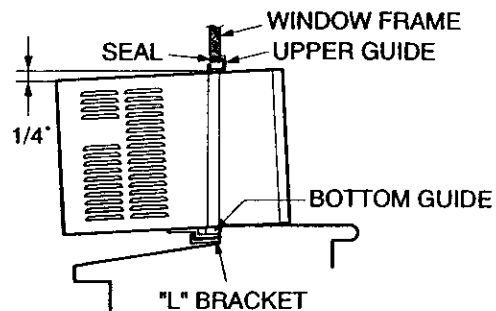

Figure 78
- While steadying the air conditioner, carefully bring the window sash down behind the upper guide of the air conditioner, as shown in Figure 78.